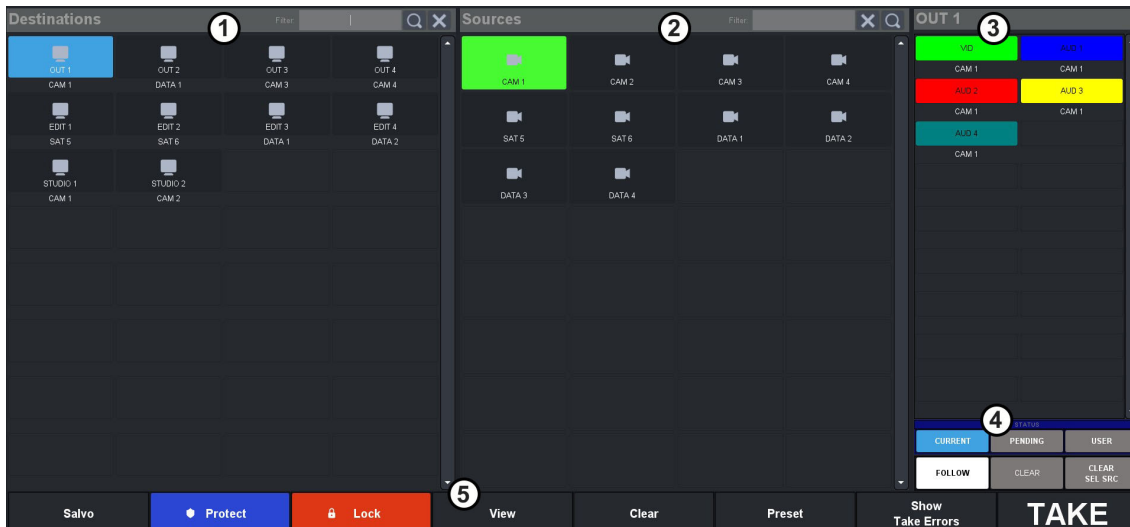

Figure 61 Example of the Default Push Button Soft Panel — Portrait
Figure 61 is an example of a Push Button soft panel set to portrait.
- Portrait — a horizontal layout; the panel is taller than it is wide. (**Figure 61**)